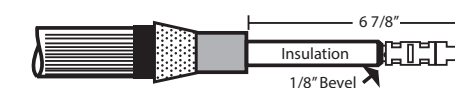

Fig. 11 - Remove Semicon
D. Measure 6 7/8" down from the end of the lug (see template) and remove cable insulation shield. Cut squarely making sure not to nick the insulation. Bevel the insulation end 1/8". See Figure 11.